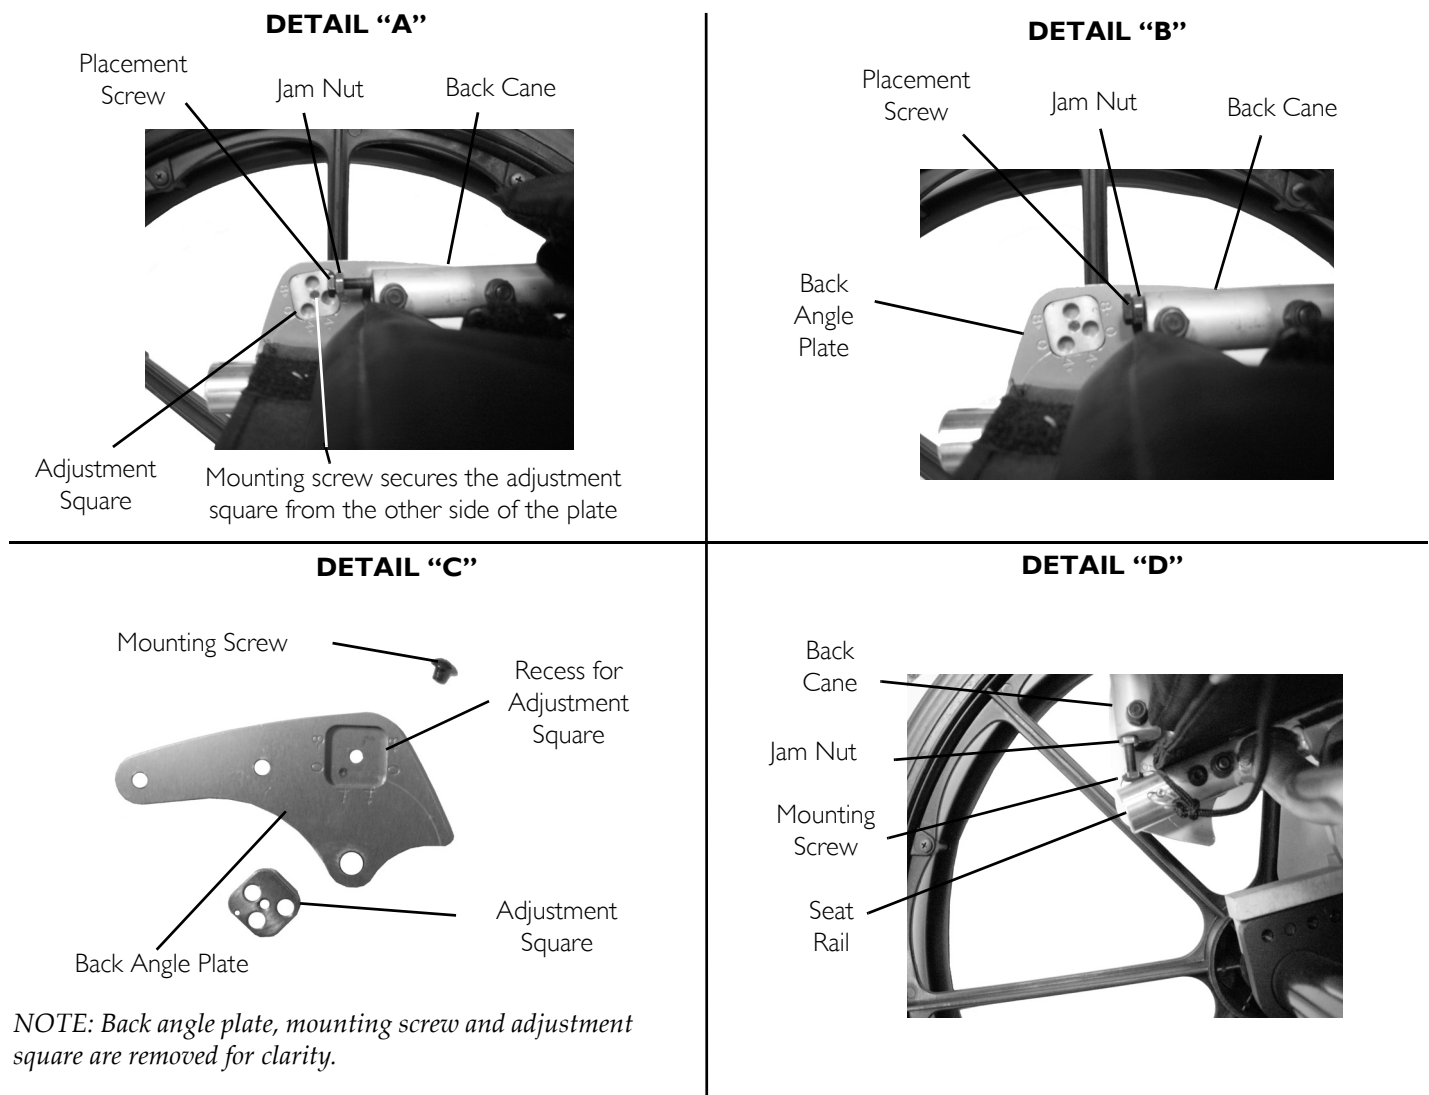

FIGURE 4.3 Back Angle Adjustment - Terminator Wheelchairs
NOTE: For this procedure, refer to FIGURE 4.3 on page 27 and FIGURE 4.4 on page 28.
NOTE: Note the indent on the adjustment square. When the adjustment square is positioned in the back angle plate, the number that is located directly next to the indent will be back angle relative to true vertical. One side of the adjustment square provides back angles of -8° , 0° and -4° . Flip the adjustment square over to obtain back angles of 8° , 4° and 0° (FIGURE 4.3).
6. Position the adjustment square in the back plate with the indent located underneath the desired back angle (FIGURE 4.3).